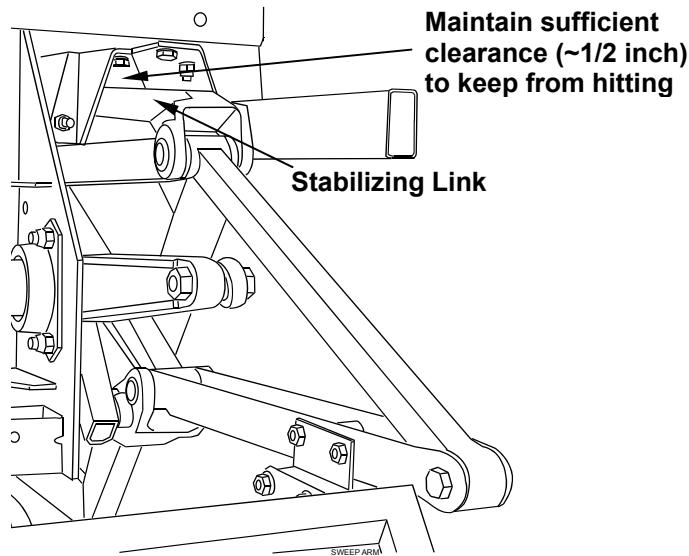

Figure 4.2-25
2. Adjust the long connecting rod (see above) to obtain approximately 1/2-inch of clearance between the stabilizing link and the frame (see Figure 4.2-25) when the sweep is in the home position. The clearance must be sufficient to keep the sweep from contacting the frame during sweep operation.